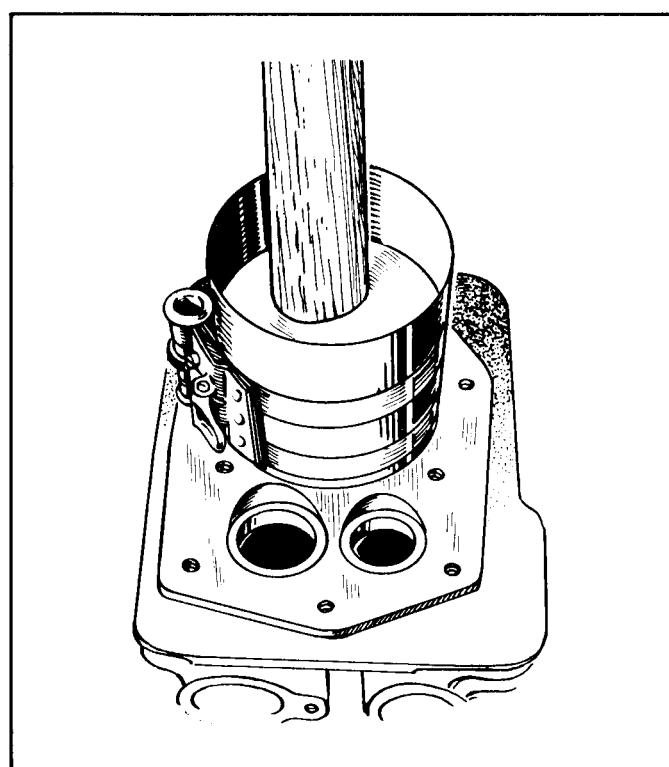

FIGURE 22. INSTALLING PISTON
2. Lubricate the number one piston assembly and inside of the cylinder. Compress the rings with a ring compressor as shown in Figure 22.
4. Tap the piston down into the bore with the handle end of a hammer until the connecting rod is seated on the journal (Figure 22).